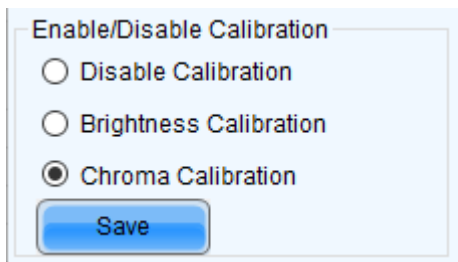

Figure 86: Calibration is enabled
Step 11) If calibration-setting **Disable Calibration** is chosen, switch to **Chroma Calibration** to enable calibration and click on the **Save** button (see Figure 86).